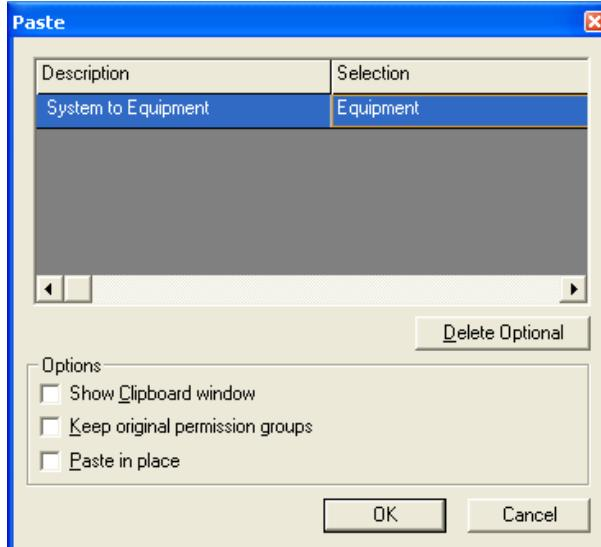

Figure 35: Paste Dialog Box
6. The **Paste** dialog box appears. Keep the default parent system for the new objects to be pasted on the model and clear the **Paste in place** check box, as shown in Figure 35. Click